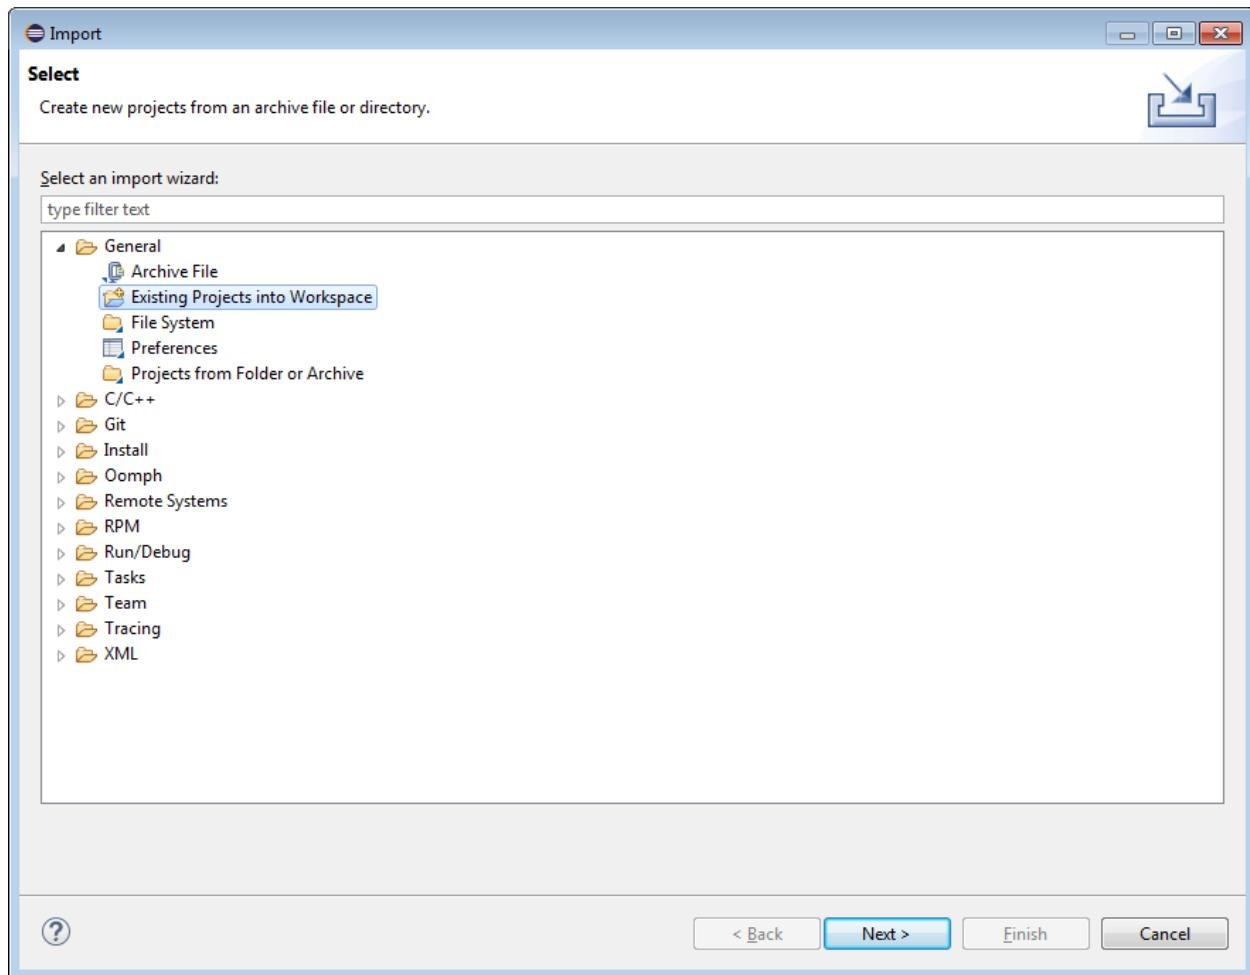

Fig. 11.11: Select projects import by Existing Projects into Workspace
2. Click General -> Existing Projects into Workspace, as shown in Fig. 11.11.